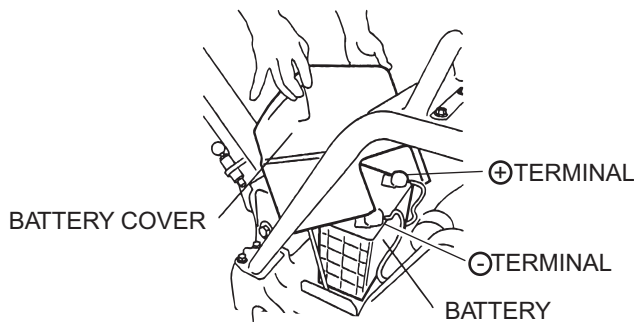

Figure 32. Battery Removal
2. When removing cable, disconnect the ground side (normally negative) first (Figure 32).